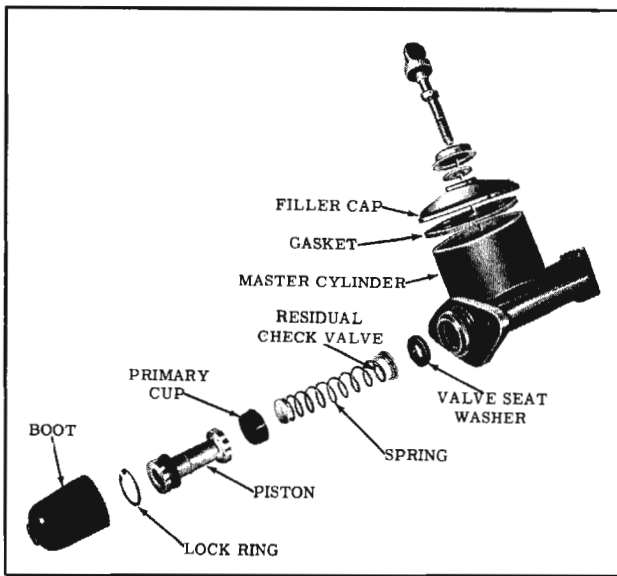

Fig. 7-112 Master Cylinder
### Disassembly (Fig. 7-112)
2. Install residual check valve rubber washer against the shoulder inside the master cylinder bore. (Fig. 7-112)